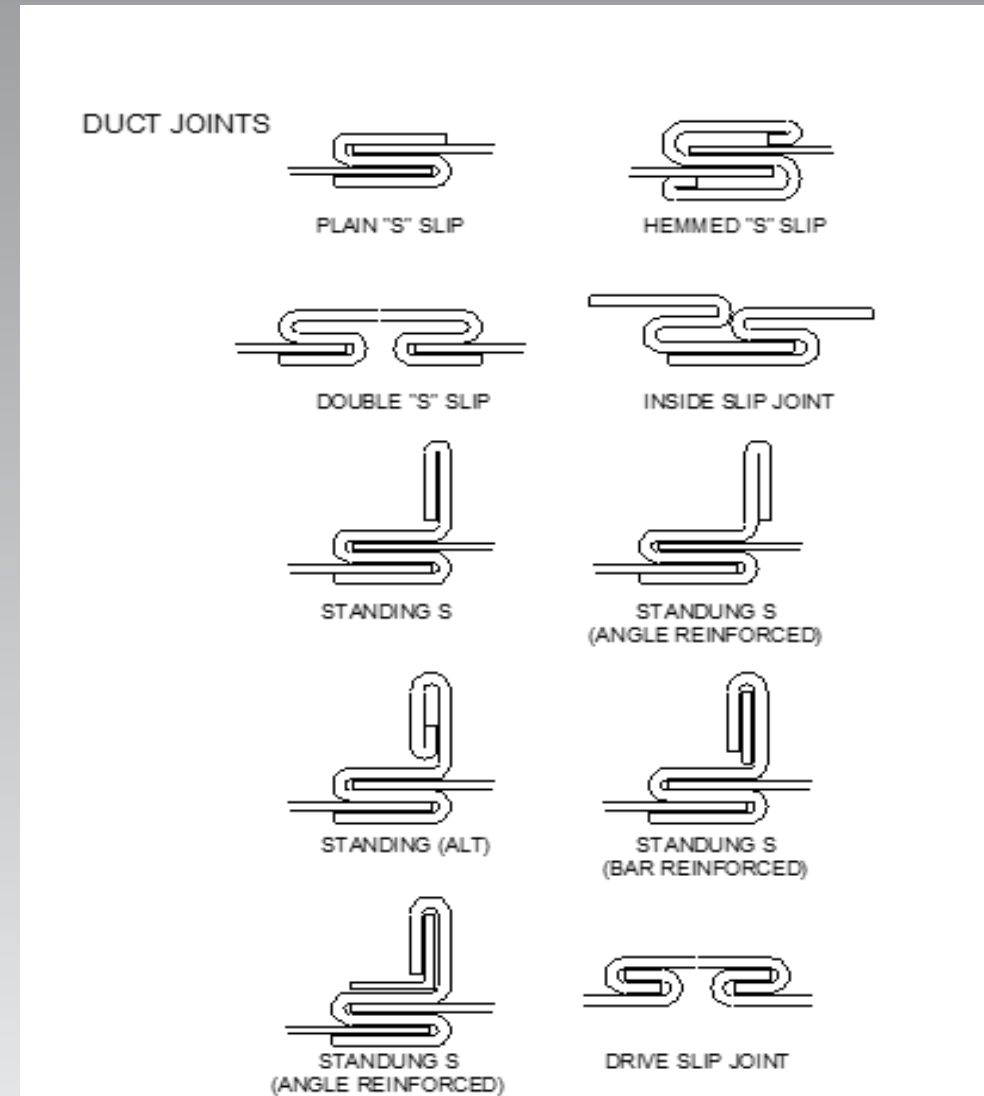

FIGURE 5: Breakaway Duct Connecting Joints
-Any duct connection other than shown on Figure 5 (Breakaway Connections) are considered as rigid connections.